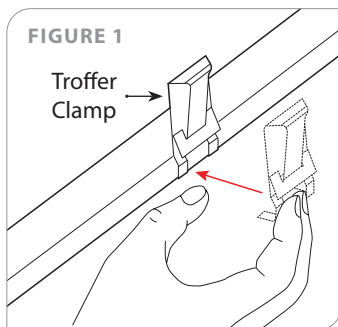

FIGURE 1
1. Install troffer clamp 6" from end of housing (4 per housing) (Figure 1).